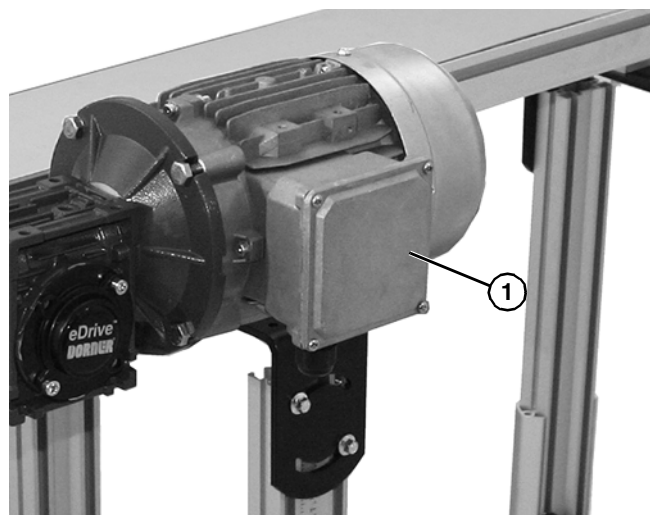

Figure 8
1. Connect the controller wires to the motor. Refer to wiring diagram on the inside cover of the motor's terminal box (**Figure 8, item 1**).